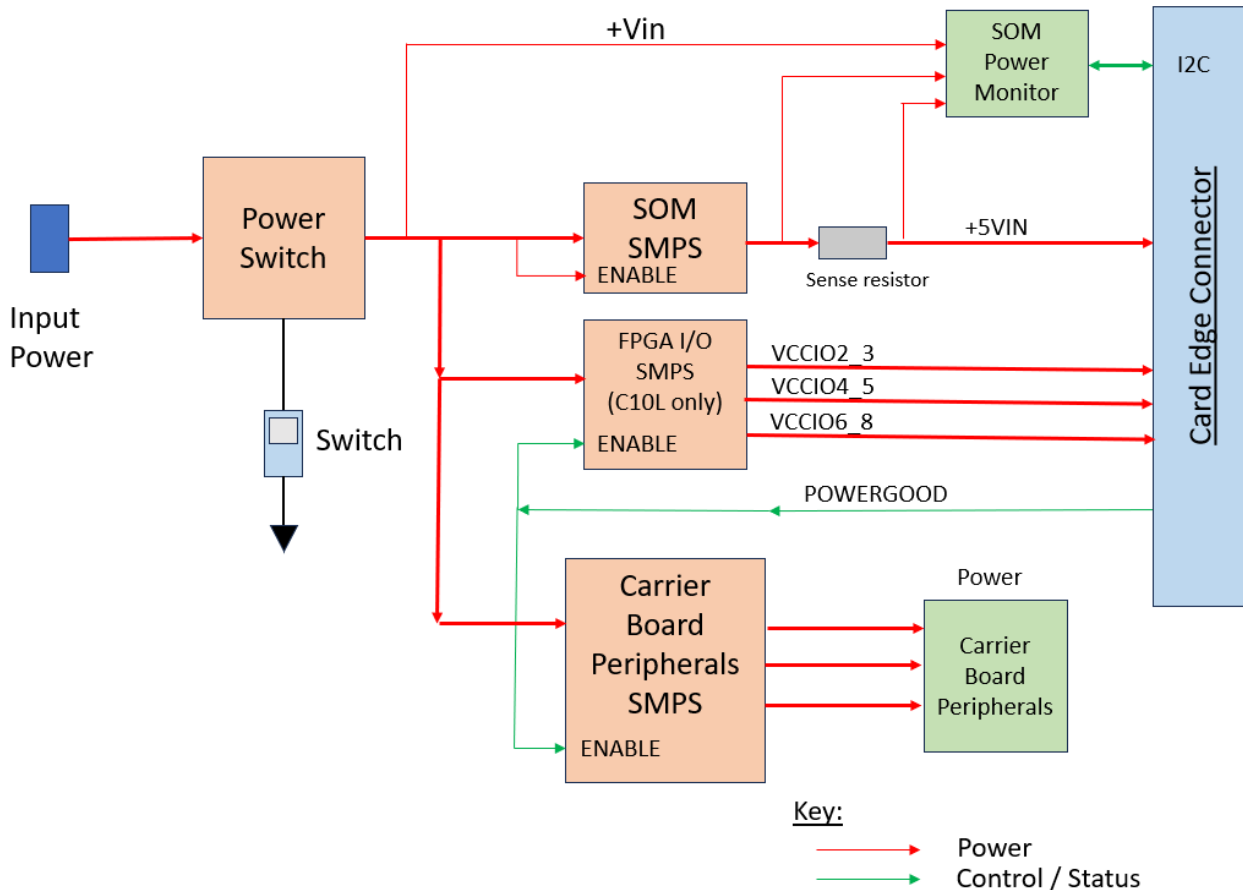

Figure 4: Carrier Board Power Section Block Diagram
Features of Carrier Board Power Section (refer to Figure 4 above):
- Input power, such as +12 VDC, is provided from an external source via a power jack or header, as shown in Figure 4.
C10L SOM: Each of 3 FPGA I/O banks (64 I/O per bank) are powered by separate VCCIO inputs from the carrier board. See Figure 4 above for I/O bank voltage net names. The range of each VCCIO is +1.2 to +3.3 V.